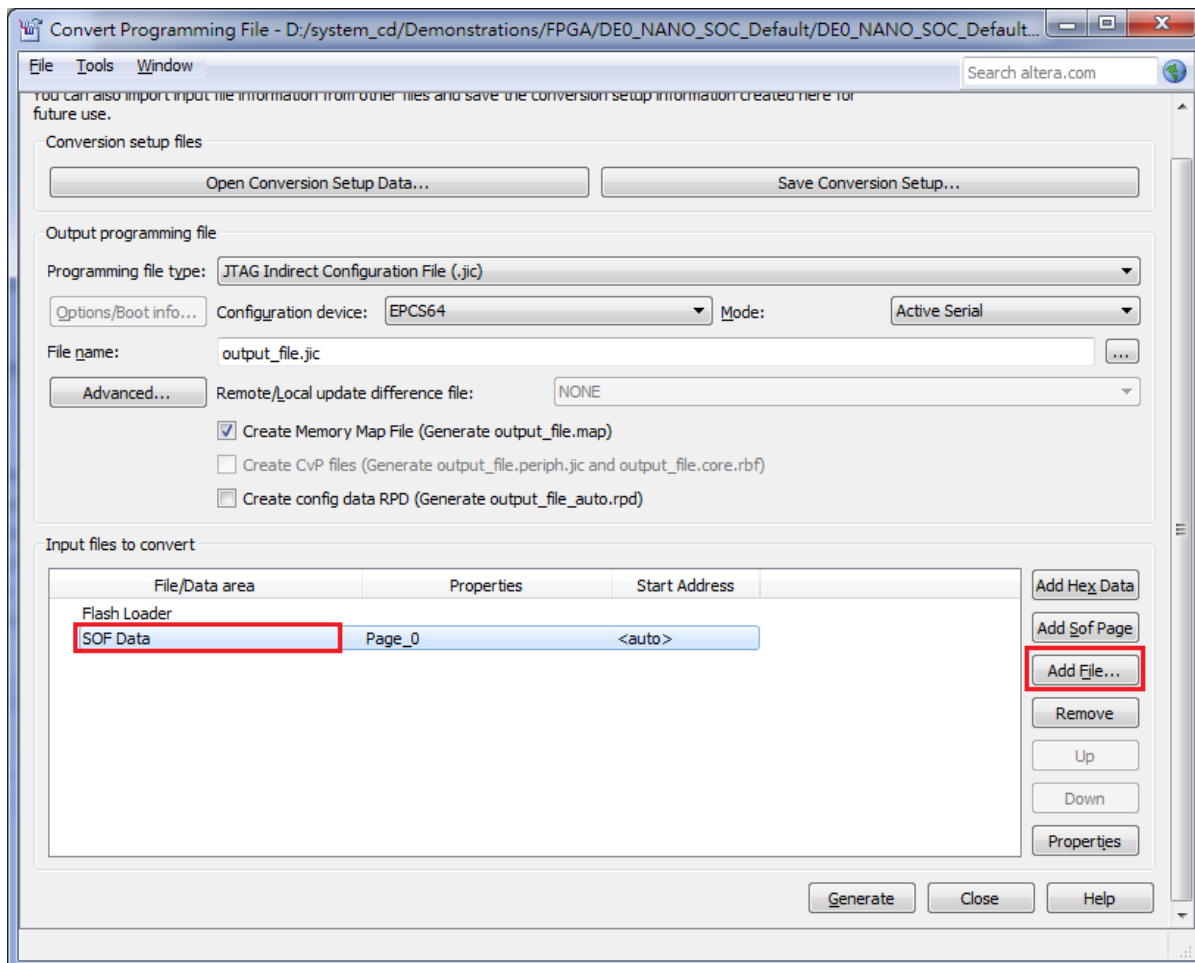

Figure 8-3 Dialog of “Convert Programming Files”
7. Click on the **SOF data** in the section of **Input files to convert**, as shown in **Figure 8-3**.